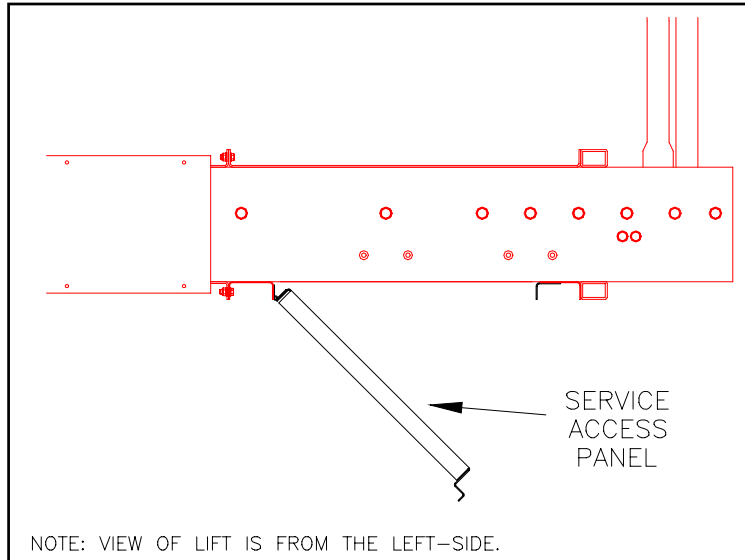

FIGURE 4-1: SERVICE ACCESS PANEL (OPEN)
- Refer to **Figure 4-1**. To gain access to the underside of the lift, hold the service access panel up, remove the two retaining bolts and lock-nuts from the front edge of the panel, and lower the panel.